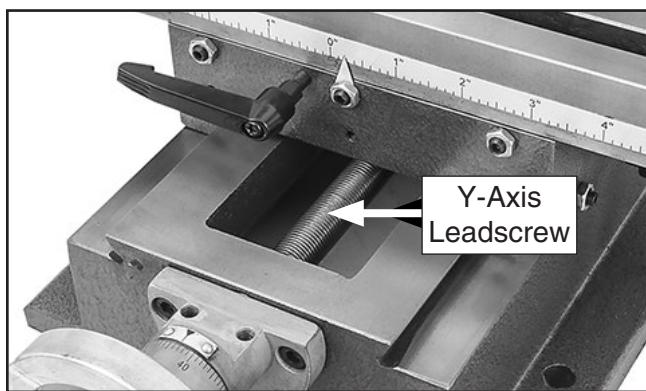

Figure 36. Y-axis leadscrew lubrication point.
3. Remove rubber way cover, then use mineral spirits and a brush to clean existing grease and debris off of Y-axis leadscrew shown in **Figure 36**. Allow leadscrew to dry.